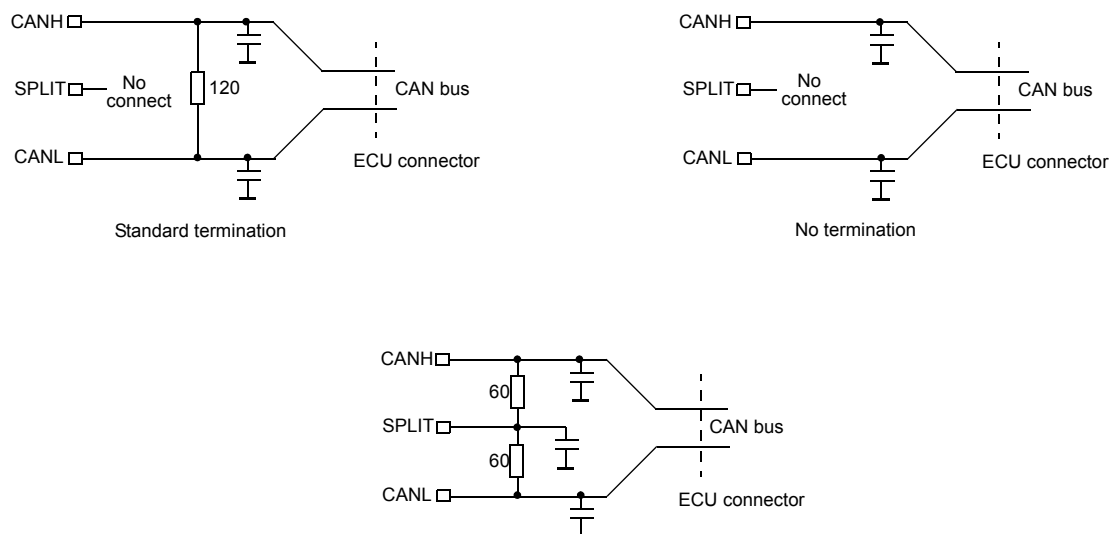

Figure 33. Bus Termination Options
- Figure 33 illustrates some of the most common terminations.